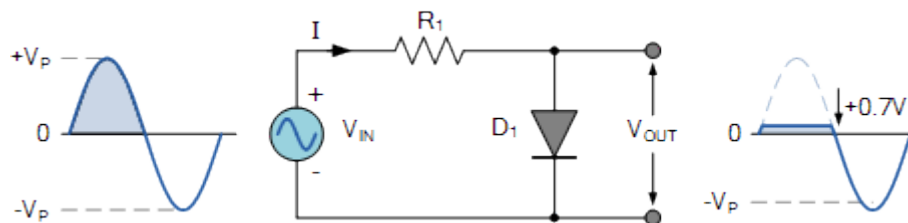

Fig. 1 Basic Limiting Circuit
1. For the circuit shown in Fig.1 (Limiting circuit), first use a DC source excitation with $V_{IN} = 15V$, using the assumption $V_f = 0.7V$, find the R_1 resistor value you need to set the diode current to 5mA. The resistor value will be used for the following steps.